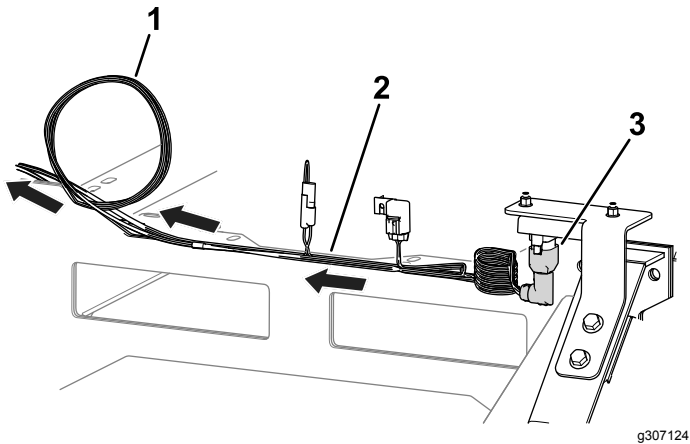

**Figure 3**
3. Use 2 bolts (M6 x 25 mm) and 2 flange nuts (M6) to secure the slope sensor mount to the chassis (Figure 3).